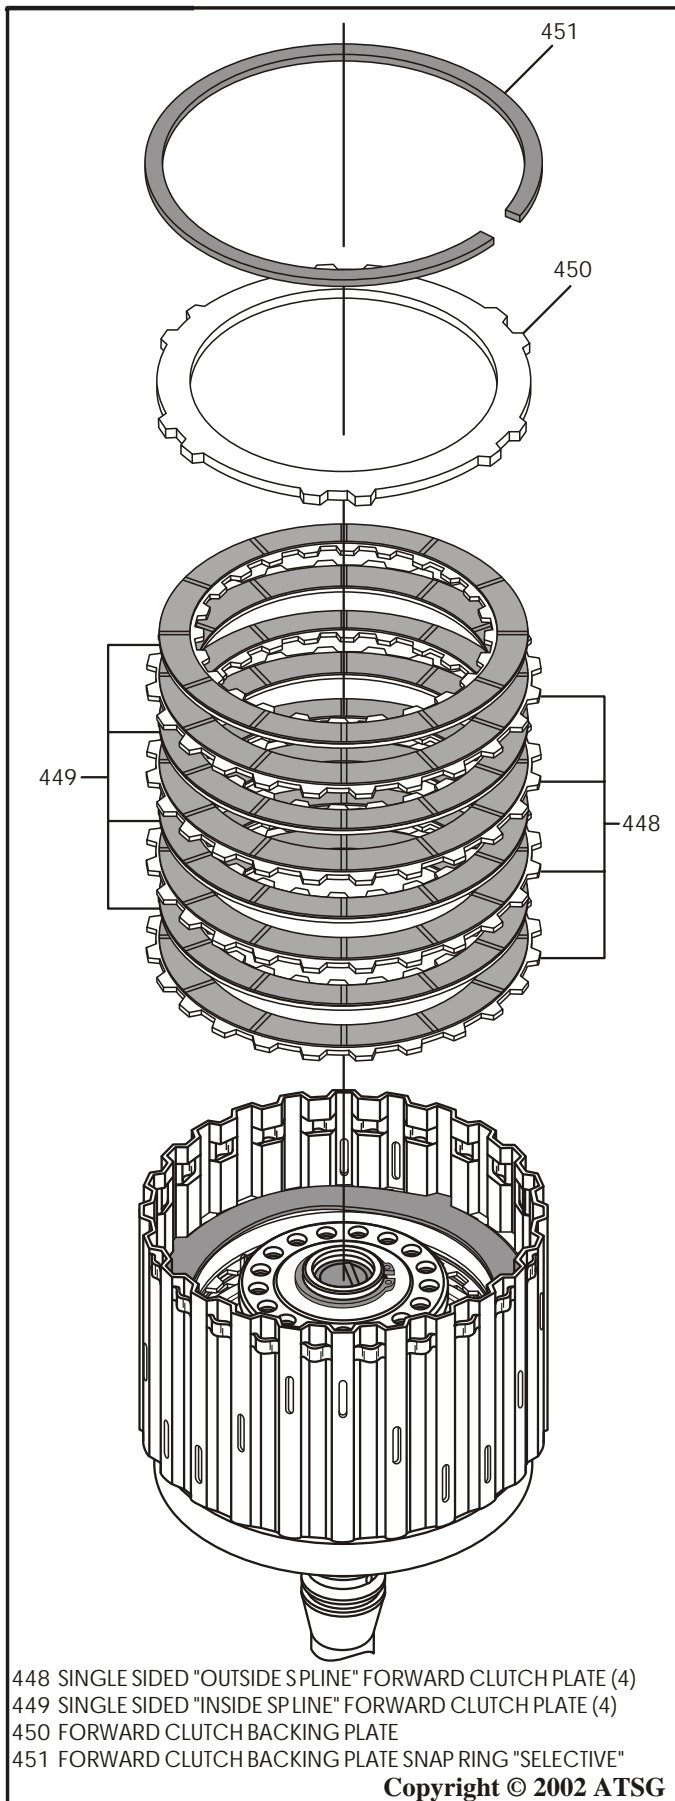

Figure 95
33. Install the forward clutch "single sided" plates beginning with an outside spline plate first and alternating with inside spline plates until you have installed 4 of each, as shown in Figure 95.
**Note:** *Lined side must be facing up, as shown in Figure 95. Clutch plate amounts may vary by model.*
34. Install forward clutch backing plate on top of the last inside spline plate (See Figure 95).
35. Install the "Selective" backing plate snap ring as shown in Figure 95, and ensure that the snap ring is fully seated against the top of the snap ring groove in forward clutch housing.